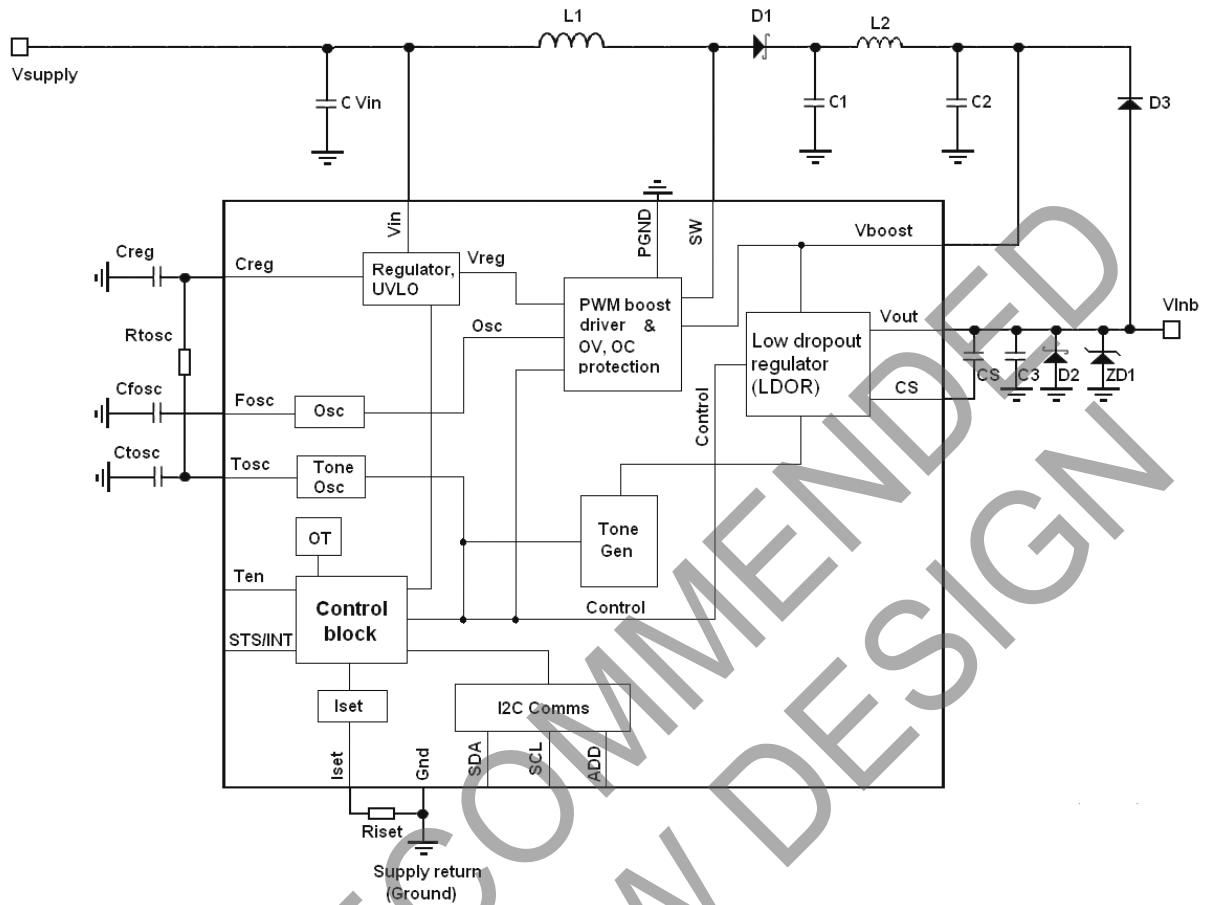

Figure 1. ZLPM8012 Functional Diagram
The ZLPM8012 range provides a highly integrated monolithic power management solution to meet the demands of satellite receiver Low Noise Blocks (LNBs). Its internal circuit blocks include an efficient boost converter, a low noise low dropout regulator (LDOR), a tone generator and modulator, an I²C interface and a logic tone enable pin. Most internal circuits are powered by an internal 3.3V regulator. A block diagram of the ZLPM8012 is shown in Figure 1.
The functional diagram below in Figure 1 shows the internal architecture of the ZLPM8012.
| Output Voltage Low (Std) | Test Circuit Figure 1, $I_{LOAD} = 300\text{mA}$, Pol Sel = 0 | 12.75 | 13.25 | 13.75 | V |
| Output Voltage High (Std) | Test Circuit Figure 1, $I_{LOAD} = 300\text{mA}$, Pol Sel = 1 | 17.75 | 18.25 | 18.75 | V |
| Output Voltage Low (LR) | Test Circuit Figure 1, $I_{LOAD} = 300\text{mA}$, Pol Sel = 0 | 10.25 | 10.75 | 11.25 | V |
| Output Voltage High (LR) | Test Circuit Figure 1, $I_{LOAD} = 300\text{mA}$, Pol Sel = 1 | 14.25 | 14.75 | 15.25 | V |
| Output Ripple | Test Circuit Figure 1, $I_{LOAD} = 550\text{mA}$, Pol Sel = 1 | — | 20 | — | mV |